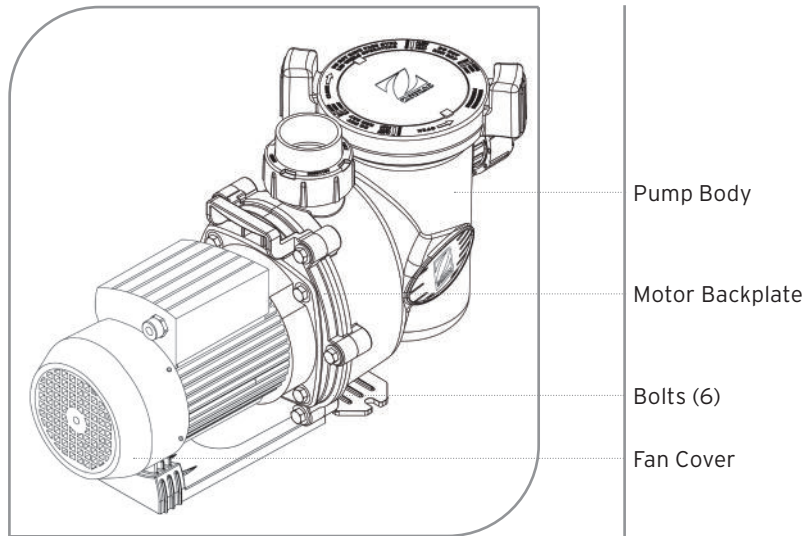

Figure 1. Remove the Pump body
3. Using a 14mm wrench, loosen the bolts connecting the pump body to the motor backplate. (See Figure 1.)
7. Remove the motor fan cover on the back of the motor by removing the 4 screws holding it in place. (See Figure 1.) The motor shaft with fan will be exposed.